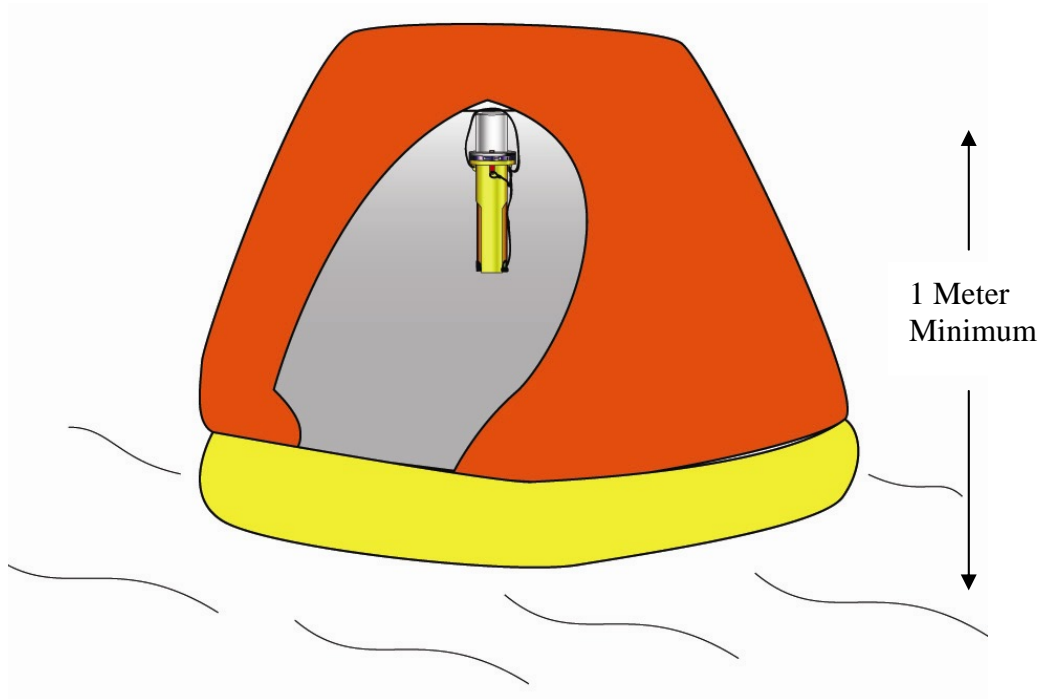

Figure 6
1. If no pole is available, or if you prefer, you can suspend the SART from the canopy support using the additional lanyard loop provided (See figure 6).